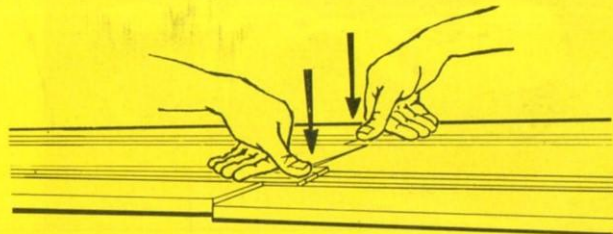

Fig. 3
- 3 Push very hard with your thumbs. The rigid sections (straights and 90° curves) require most pressure and a very sharp snap will be heard as they are coupled. (see Fig. 3).